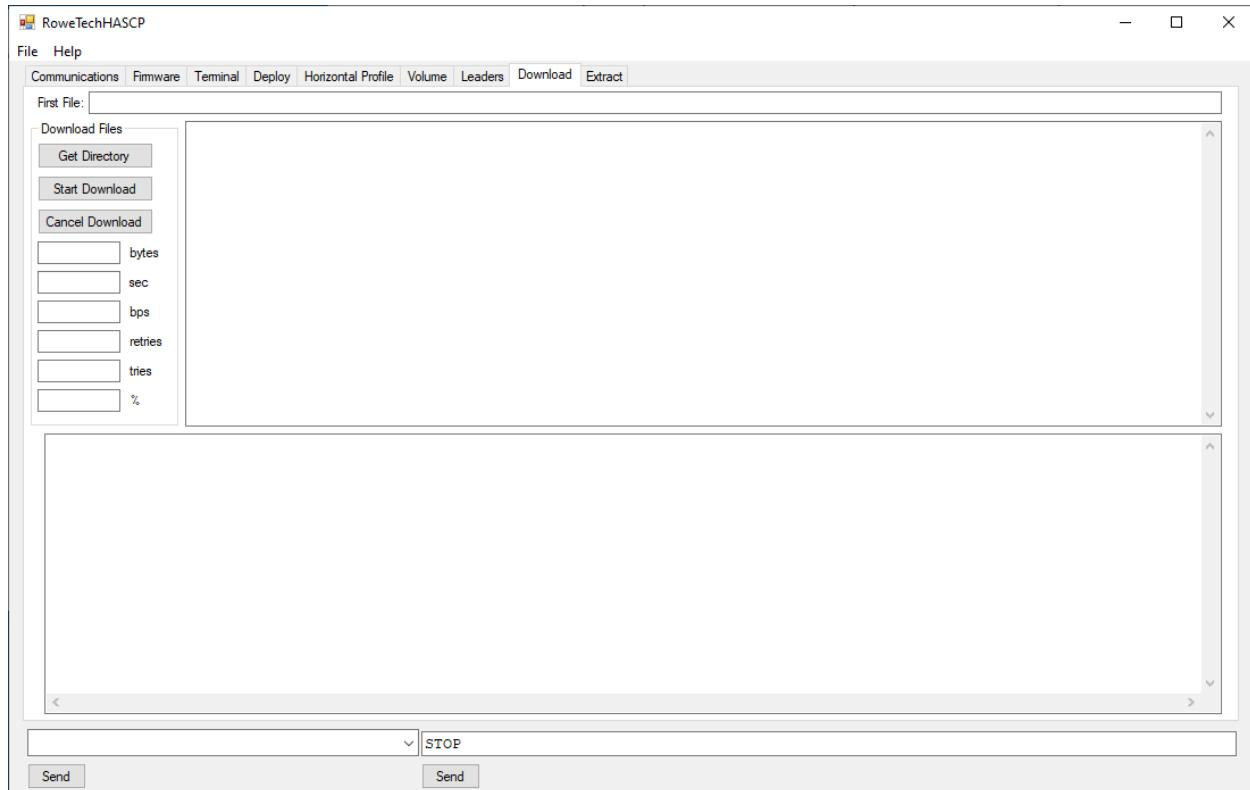

**Figure 11. Leaders Tab in RTI HASCP software**
- a. Click the Leaders TAB near the top center of the software window. Refer to Figure 11.